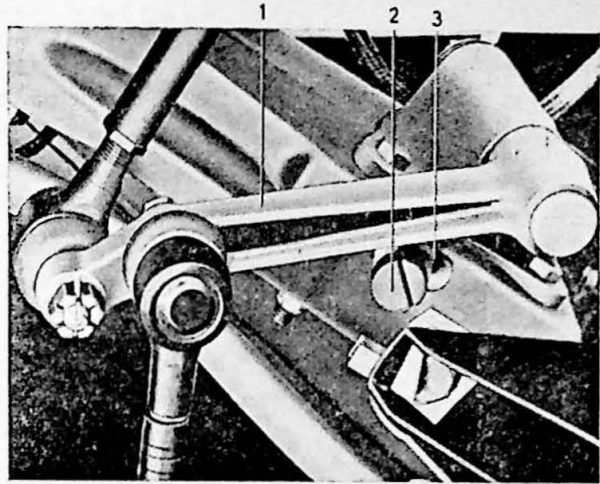
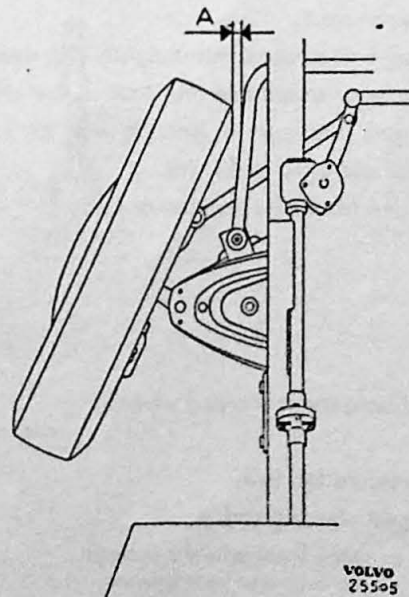

Fig. 6-38. Adjusting steering lock
Fig. 6-39. Steering lock measurement
The amount by which the wheels can be turned outwards is limited by means of stop screws at the pitman arm and idler arm (Fig. 6-38). Adjustment is carried out as follows:
1. Turn the left-hand wheel inwards (as though for taking a right-hand curve) as far as possible. Check that the distance between the tire and stabilizer (measurement A, Fig. 6-39) is $0.59''$ (15 mm). If not, slacken the locknut (3, Fig. 6-38)